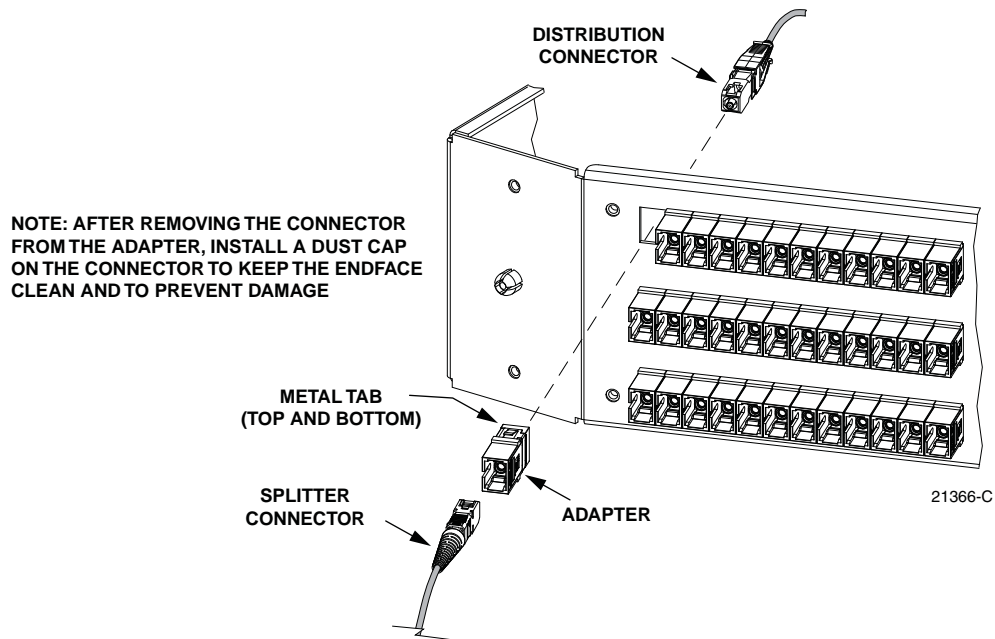

Figure 23. Adapter Removal and Replacement
1. Disconnect the splitter connector from the front side of the broken adapter as shown in Figure 23 and install a dust cap on the connector.